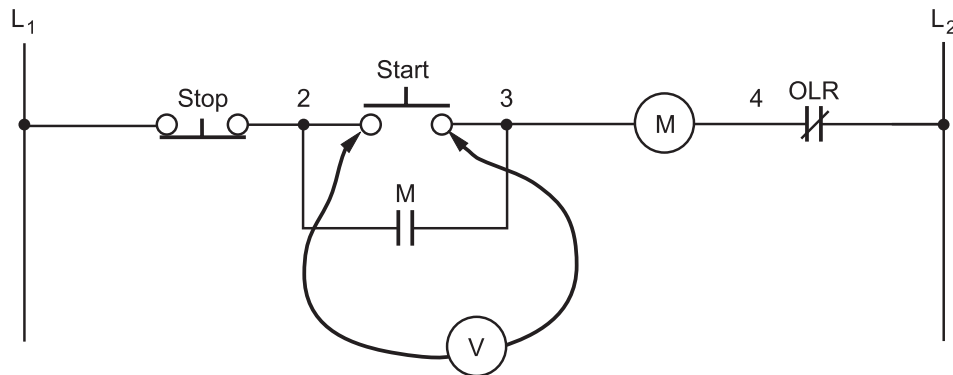

Figure 8—Testing the STOP button with a voltmeter
4. Leave the right-hand lead of the voltmeter at point 3 and move the left-hand lead to point 2, as shown in Figure 8.